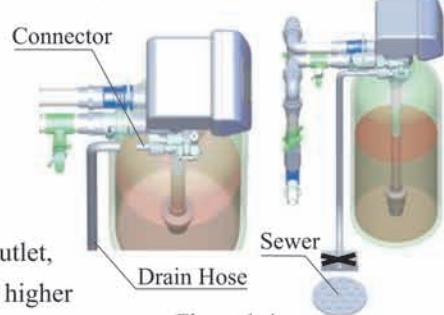

Figure 1-4
- If the valve belongs to time clock type, there is no step ② and ③.
⑤ Install drain pipeline
- As the Figure 1-4 shows, slide the drain hose connector into drain outlet.
- Locate the drain hose well as the Figure 1-4 show.
- Be sure not to connect drain with sewer, and leave a certain space between them, avoid waste water being absorbed to the water treatment equipment, such as showed in the Figure 1-4.
⑥ Connect brine tube